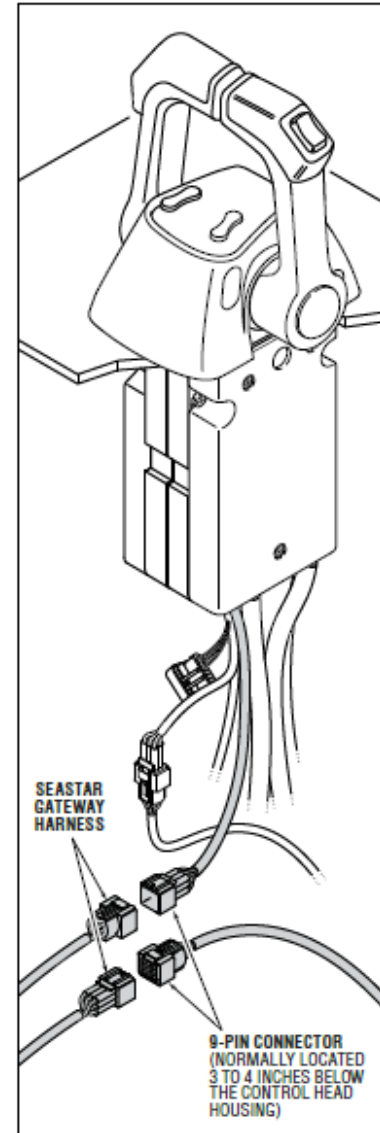

Figure 7-5. Status LED connector identification and connection.
11. From behind the dash, find the 9-pin connection from the control head, disconnect it, and plug the connectors to the portion of the SeaStar gateway harness labeled 'LED' (Refer to figure 7-5).